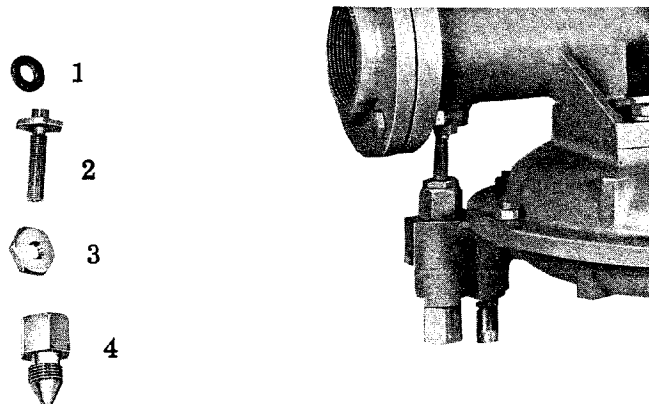

FIGURE 2
5.0 CLEANING OF AIR JET (Refer to Figure 2)